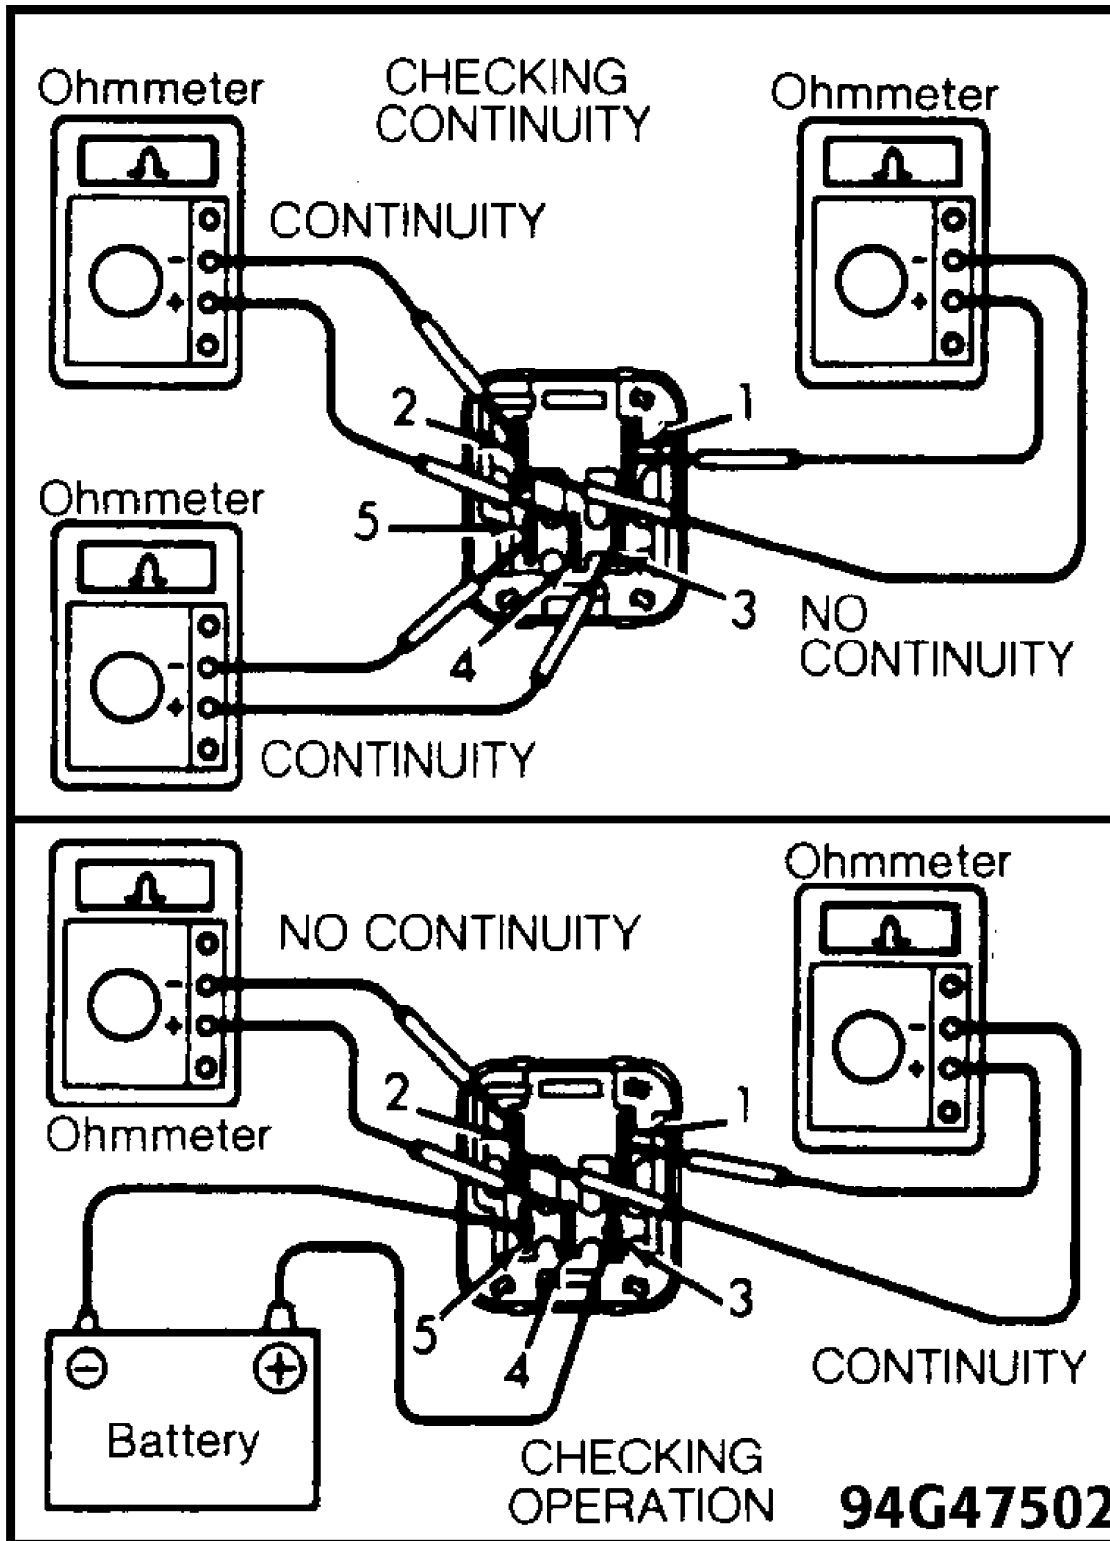

Fig. 4: Testing Engine Main Relay
1) Disconnect negative battery cable. Remove engine main relay from fuse/relay box. Using ohmmeter, ensure continuity and no continuity exists between specified terminals. See Fig. 4.
2) To check relay operation, connect battery to specified terminals of engine main relay. See Fig. 4. Using ohmmeter, ensure continuity and no continuity exists between specified terminals. See Fig. 4. Replace engine main relay if defective.